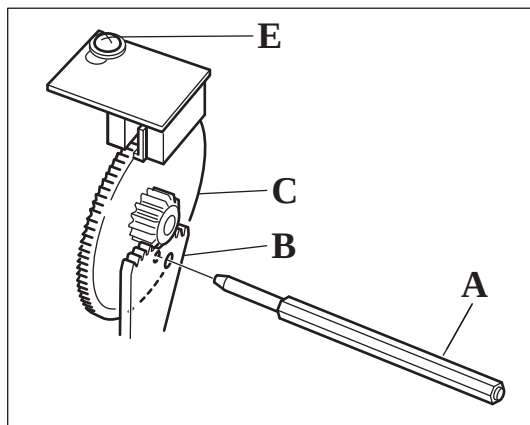

Fig.1
2. Insert guage pin **"A"** (Fig.1 N0.11684) into the both hole on the gear **"B"** and **"C"** (Fig.1) for the step motor.